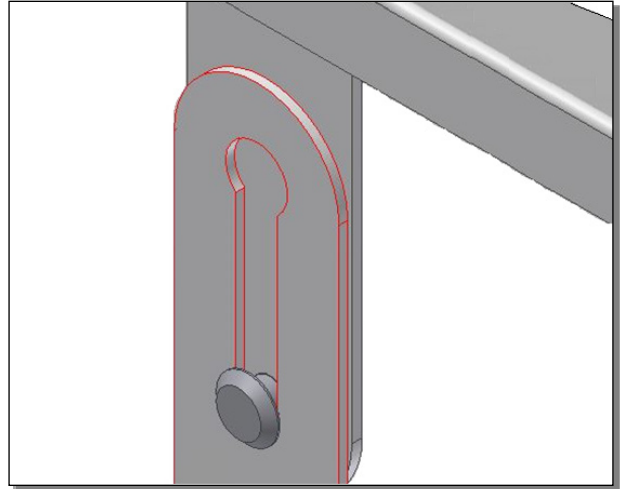

Figure 2, Screen Support Slot
7. ASSEMBLE the **Upper Frame** (7) onto the **Screen Support** (9) by inserting the pin on the **Upper Frame** into the top of the slot on the **Screen Support** and sliding it down. (See Figure 2.)